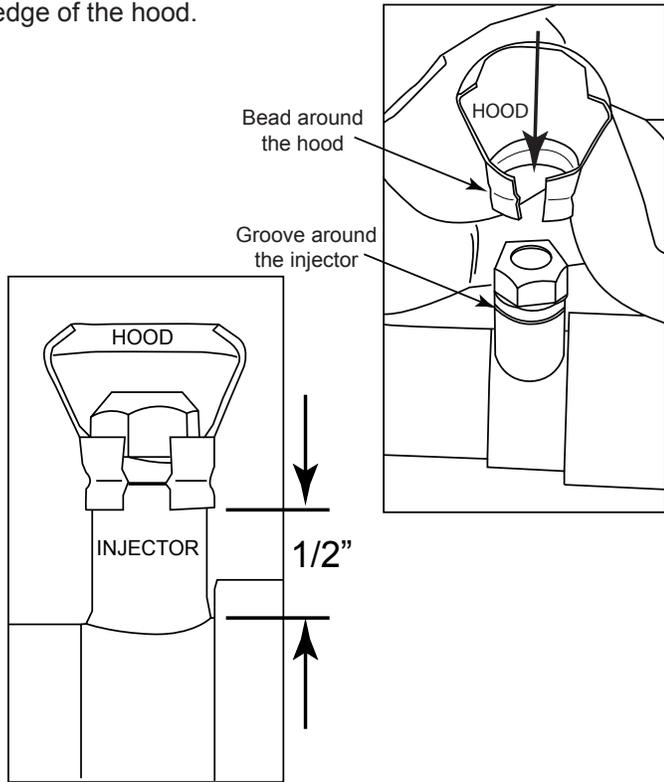
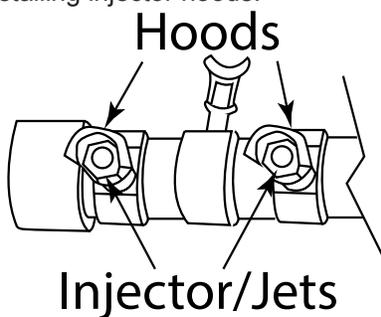

Fig. 8 Installing injector hoods.
Fig. 9 Correct placement of injector hoods.
Install the hood/rain shields over top of each injector of the pro brass burner by sliding it into position. Use the bead in the lower section of the hood, and align it with the groove in the injector, until it snaps into place. See Fig. 8. Rotate the hood to ensure it is protecting the injector opening from the elements (i.e. rain, dirt or media). See Fig. 9 for proper alignment. **Note:** If there is no detent in the injector, ensure the hood is 1/2" from the base of the injector to the bottom edge of the hood.
**CAUTION:** It is imperative the "open side" of all hoods covering the injectors/jets are installed facing downward. Because the hoods can be removed or turned, the orientation is extremely important to protect the injector or jets from dust, dirt or rain. See detail in Fig. 9.